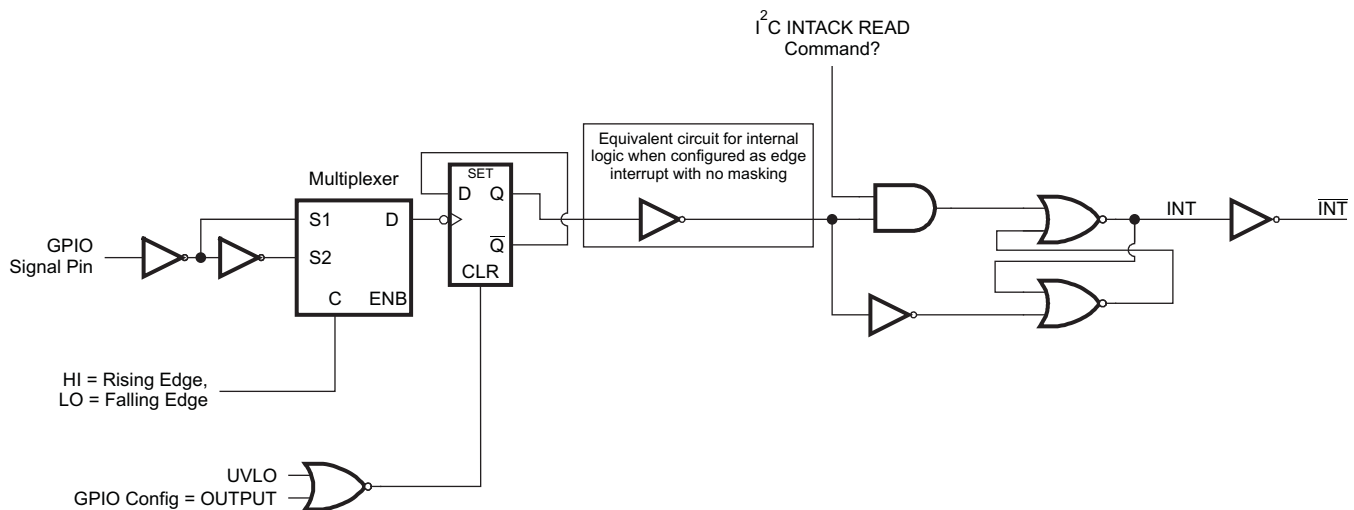

Figure 47. GPIO 1 or GPIO2 Configured as an Interrupt Request Input
See Figure 47 for a description of the logic used for GPIO1 and GPIO2 inputs when configured for edge-triggered interrupt generation. The signal from the GPIO pin input is double-latched before being sent to the interrupt controller logic. The inversion of the Q output from the first flip-flop must be HI to allow the output latch to be cleared when a READ command occurs. On the initial edge of the GPIO signal, the Q output of the flip-flop is set (HI). The $\overline{\text{INT}}$ line is asserted (LO) after the initial selected edge from the GPIO pin. On the next falling (or rising) edge of the GPIO pin, the interrupt can again be cleared (which allows the $\overline{\text{INT}}$ pin to go back high). The $\overline{\text{INT}}$ signal is cleared (set back HI) after an I²C READ operation is performed.